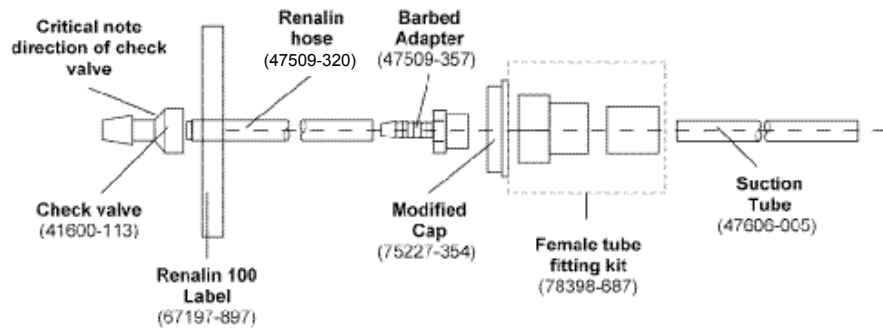

Figure 2.5.2
3. Insert new check valve (P/N: 41600-113) into the red Renalin hose. Make sure that the curved side of the check valve is in the up position (see Figure 2.5.2)